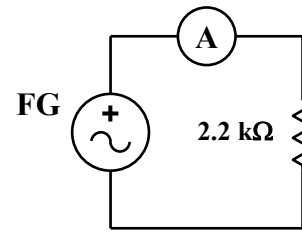

Figure 9.3b
14. Measure the *r.m.s. current* with the DMM (**Figure 9.3b**). Record in **Table 9-5**, and compare with the result of **Step 13**.